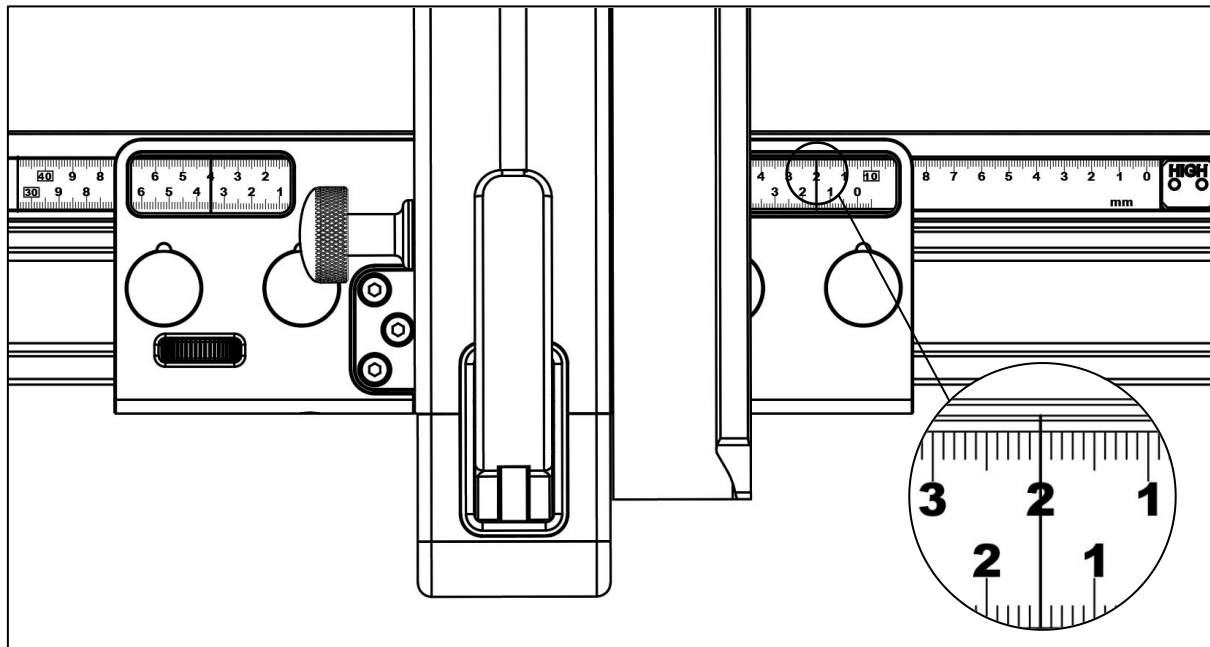

Fig. 27
- Fig. 27: High Fence Plate configuration